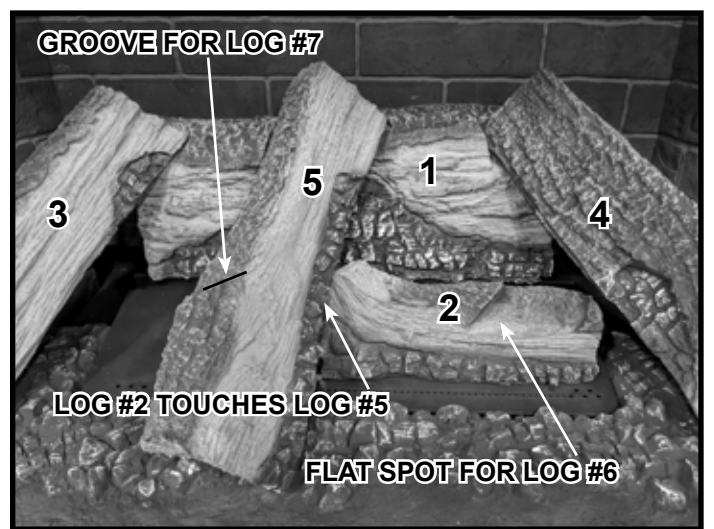
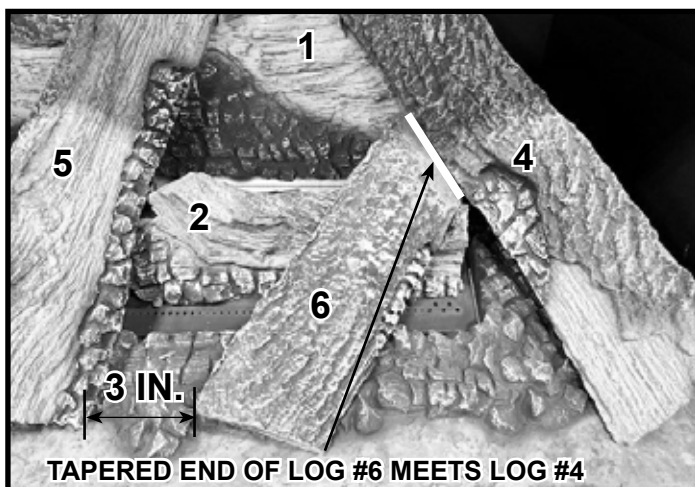
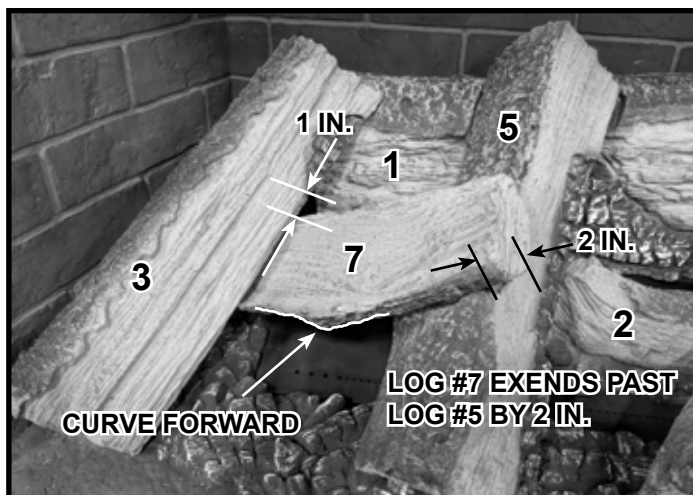

Figure 8 Place Log #5
Figure 9 Place Log #6
Figure 10 Place Log #7
**Log #5:** Place the top end of Log #5 on the notch located on Log #1. See Figure 3. Place the bottom end of Log # 5 as shown in Figure 8. Log # 5 and Log # 2 will touch as shown in Figure 8.
**Log #6:** Log # 6 rests on the flat spot of Log #2 as shown in Figures 8 and 9. Slide the tapered end of log #6 so that it is positioned firmly against log #4 shown in Figure 9. Place the wide end of Log # 6 as shown in Figure 9. The space between the bottom of Log #5 and Log #6 should be 3 inches as noted in Figure 9.
**Log #7:** Place Log #7 with the split side up and the curve towards the front of the firebox as shown in Figure 10. Log #7 will rest on the groove of log #5 shown in Figure 8. Figure 10 shows additional placement details.